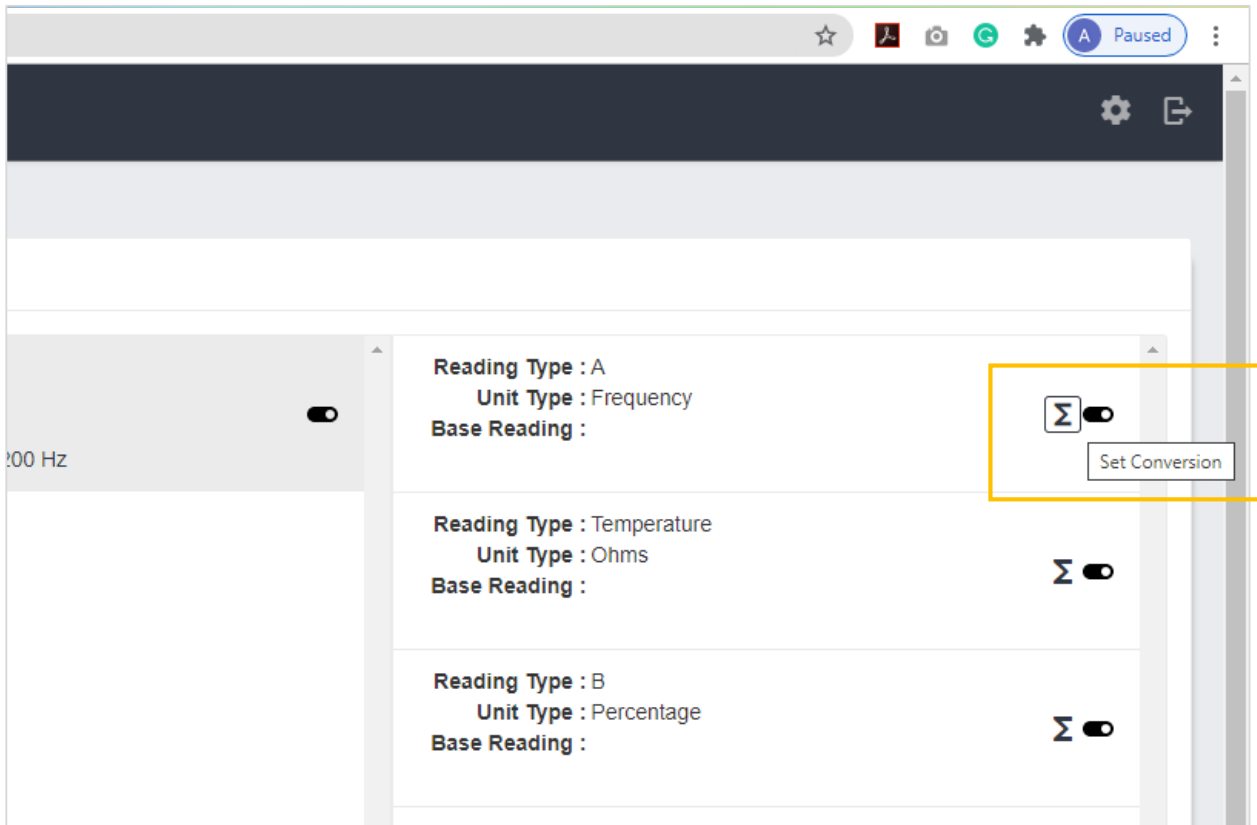

Figure 3-30
5. Click on Σ symbol to add/edit coefficients and gage factor. In the example given below, Σ symbol has been selected for a vibrating wire sensor. (Refer to figure 3-30)